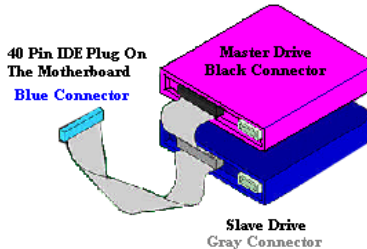

Figure 2-10. How to connect an Ultra ATA/66 Cable to the Motherboard
- Attach the **BLACK** connector to the mating plug on the master hard drive. Attach the **GREY** connector to the mating plug on the slave drive (secondary hard drive, CD-ROM, or tape drive). Please refer figure 2-10.